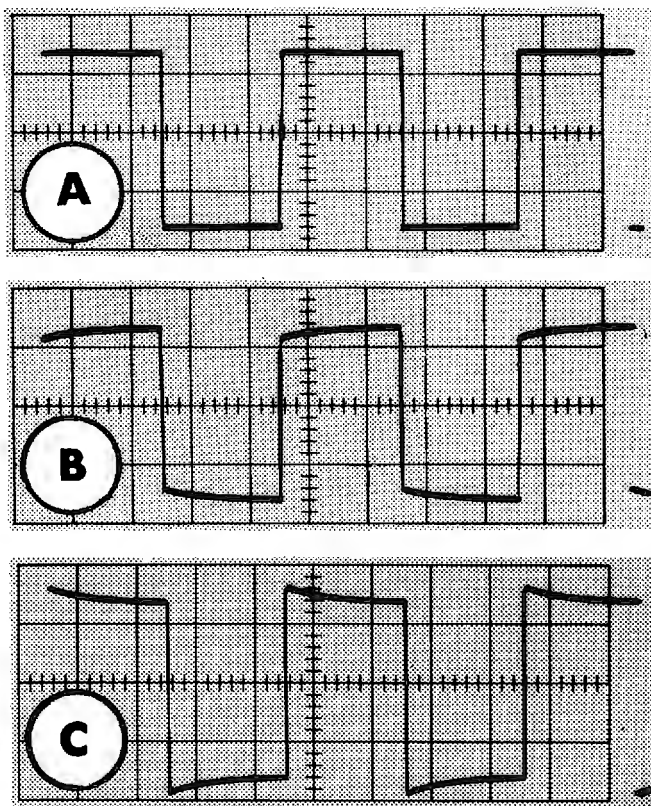

Fig. 6-9. Checking the VERT. SIG. OUT compensation with another oscilloscope.
Connect the probe of the test oscilloscope (make sure the probe has been properly compensated) to the VERT. SIG. OUT connector of the Type 536, adjust the sweep rate of the test oscilloscope for 5 microseconds/division, and adjust the input attenuator for a suitable deflection. These settings should produce a display similar to that shown in Fig. 6-9. If the top and bottom of the waveform are flat, as shown in 6-9(A), no adjustment of the compensating capacitor is necessary. If the waveform appears similar to either Fig. 6-9(B) or 6-9(C), however, the divider is not properly compensated and C392 must be adjusted.